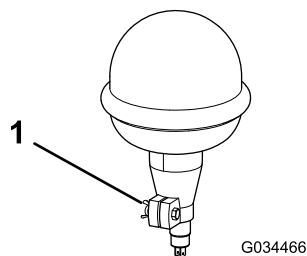

Figure 5
4. Loosen the wing nut on the beacon (Figure 5).